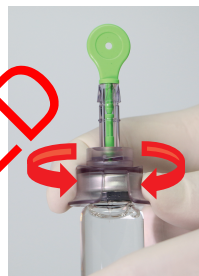

figure 6
- e) Insert the Filling Adapter spike into the vial with a twisting motion until it is fully inserted, as shown in figure 6.